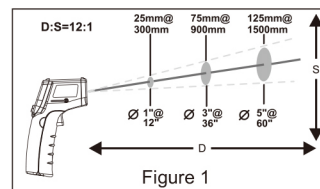

Figure 1
- 1). When taking measurement, pay attention to the Distance to Spot Size. As the Distance (D) from the target surface increases, the spot size (S) of the area measured by the unit becomes larger. The Distance to Spot size of the unit is 12:1. (Figure 1)